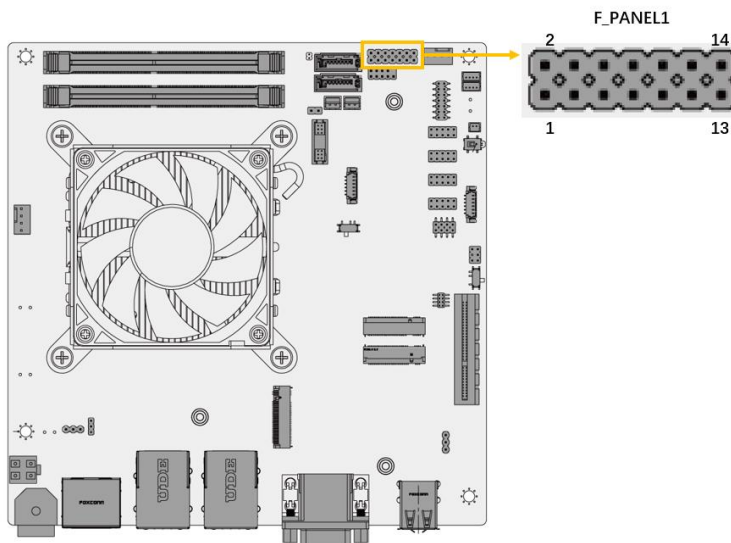

Figure 3-13: Front Panel Connector Location
- CN Location:** See Figure 3-13